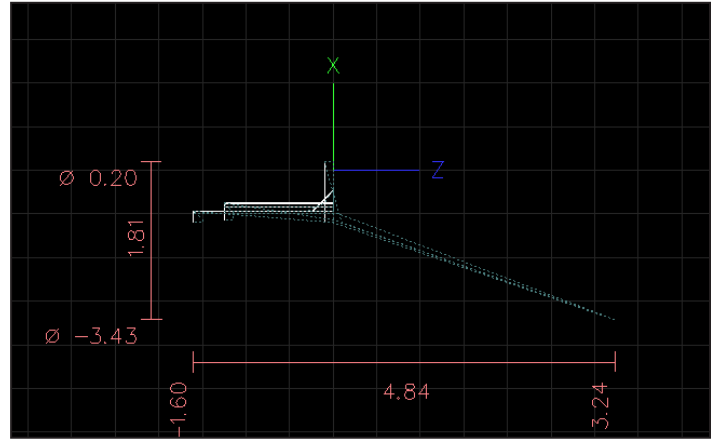

Figure 4.25
2. Click *Append to File* on the *Chamfer* tab to add this code to the program. The tool path should now look like **Figure 4.25**.